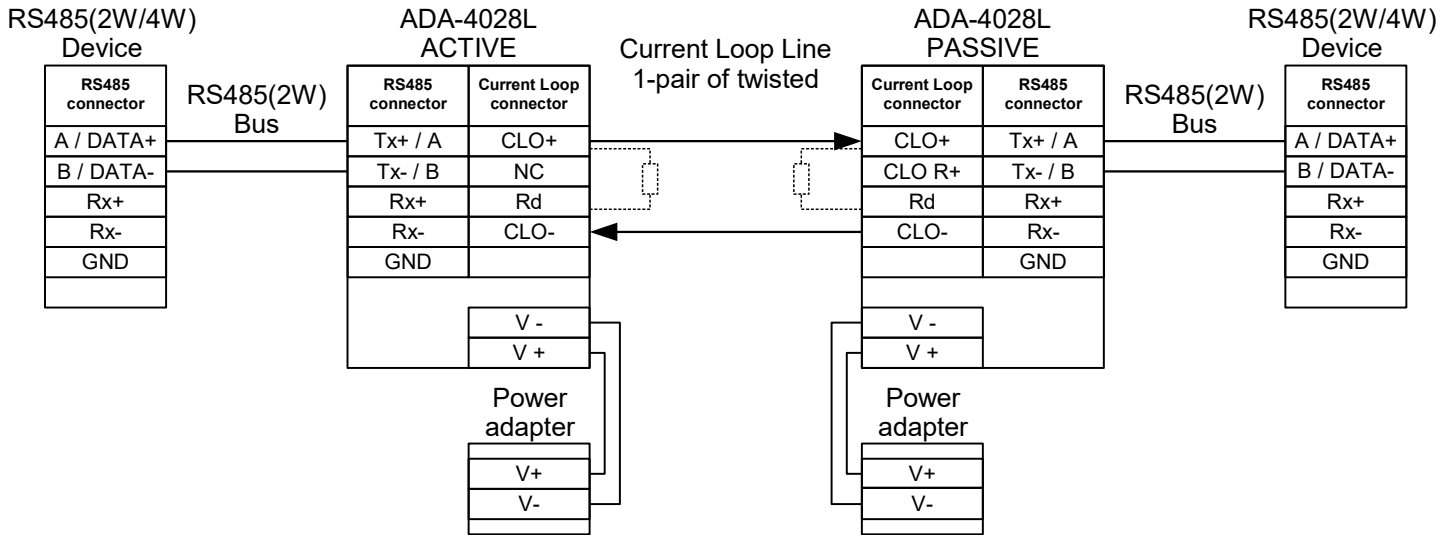

Fig 10. Example extension of RS485 (2W)
- CLO+, CLOR+ (connecting of CLO+ thought resistor R=1000Ω, Fig.10), CLO-, Rd - for passive Current Loop interface.